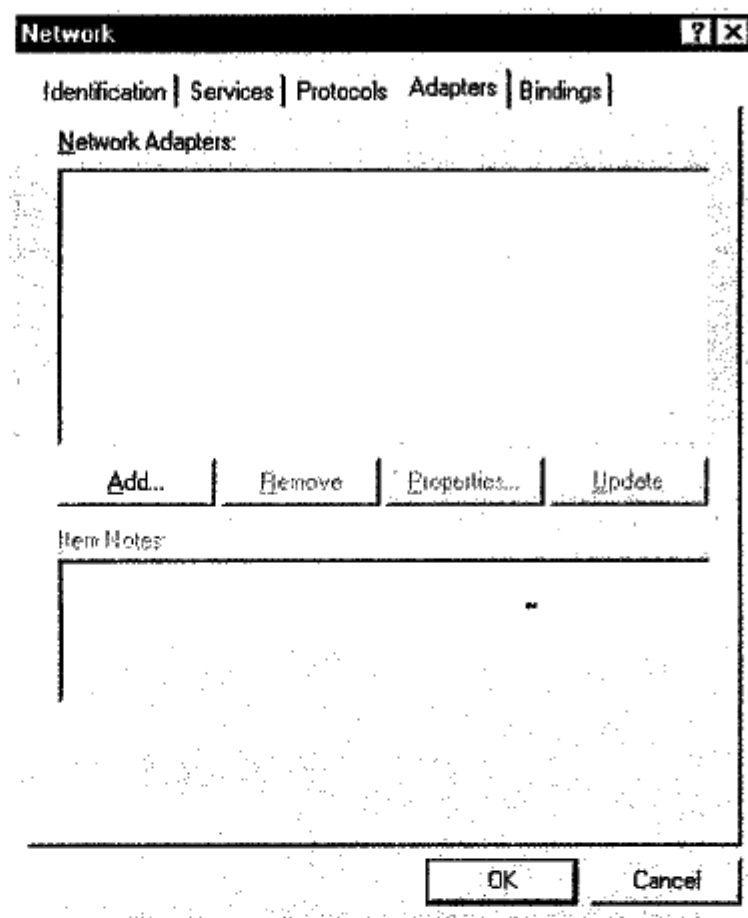

Figure 3-24
4. Select "Adapters" tab, and then click the "Add" button as shown in Figure 3-24.